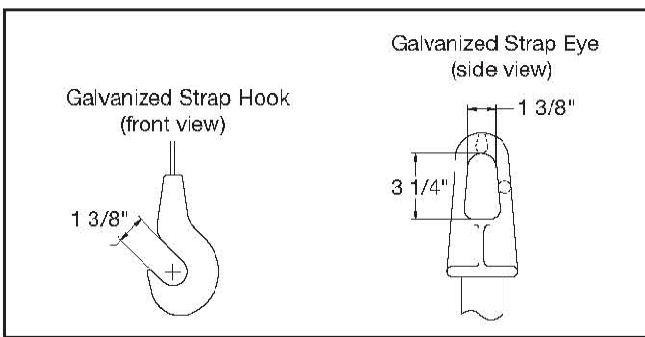

FIGURE 8-3
8.3.6. Use only appropriately sized hardware with the strap eye. See FIGURE 8-3 for dimensions of strap eye.